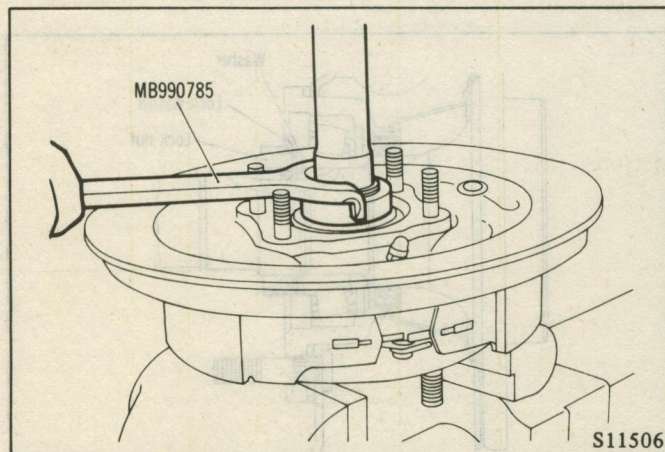

Fig. 6 Removing the Lock Nut
(7) To remove the axle shaft bearing, disengage lock washer. Remove lock nut (Fig. 6), using special tool (MB990785).